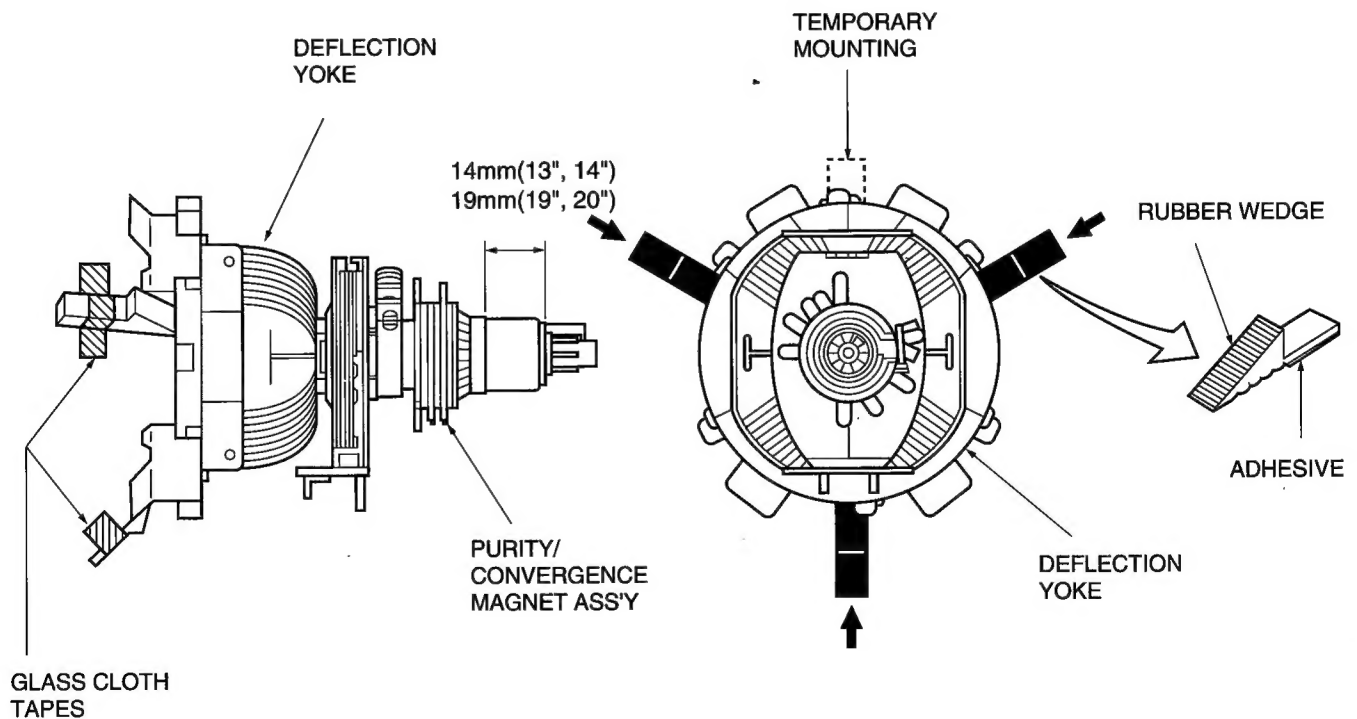

Figure 1.
Note:1. The PURITY/CONVERGENCE MAGNET assembly and rubber wedges need mechanical positioning. Refer to figure 1.
2. Temporarily put a wedge as shown in figure 1. (Do not remove cover paper on adhesive part of the wedge.)